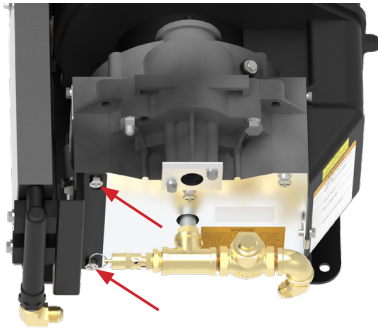

Figure 41
19. To install the aftercooler, remove the two left bolts (see Figure 41) securing the metal air duct panel to the pump.